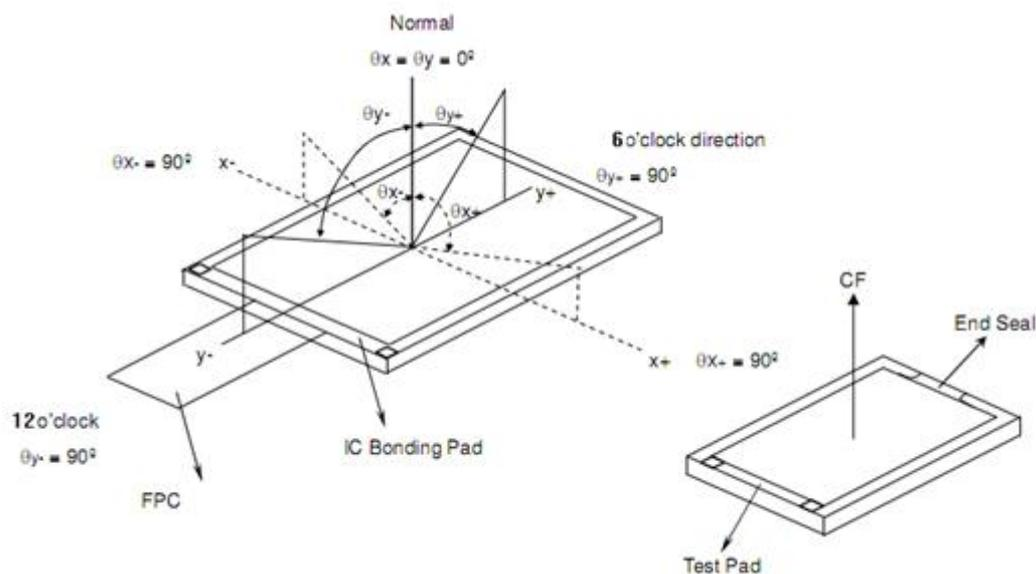

Figure 3. Definition of viewing angle
- 6. The electro-optical response time measurements shall be made as FIGURE 3 shown in Appendix by switching the “data” input signal ON and OFF. The times needed for the luminance to change from 10% to 90% is T_r , and 90% to 10% is T_d